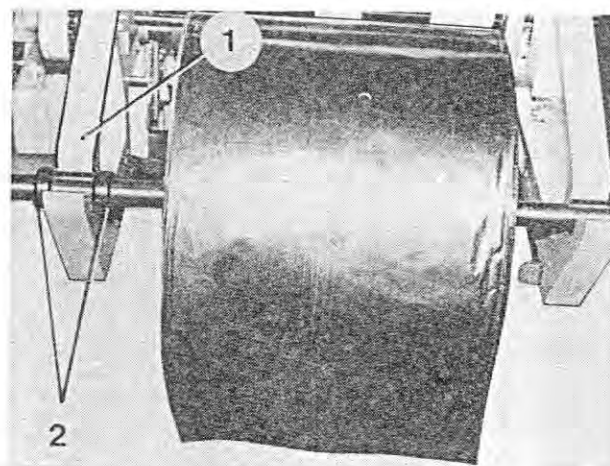

Fig. 96
10. Insert the wrapper and the dispenser axle in the frame bearings in such a way that the rear frame wall (Figure 96/1) is between the stop rings (Figure 96/2).